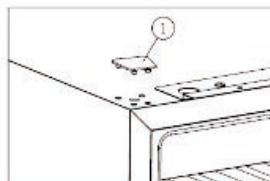

Figure 3
- Enlevez le couvercle①.[Figure 3]